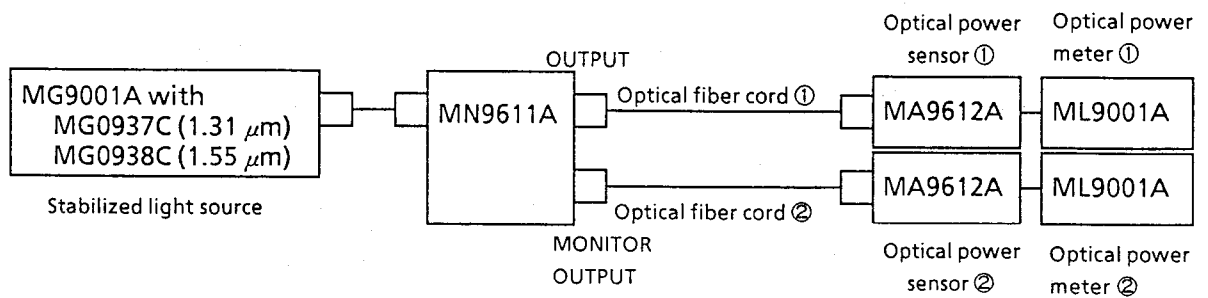

Fig. 7-6 Test System (5)
1. Figure 7-6 shows the block diagram of the test system that measures the optical output stability of the output for monitoring optical signal. Set the attenuation to "0" by pressing the [ATTENUATION] setting key of the MN9611A and turning the rotary encoder. Then, connect the OUTPUT connector of the MN9611A to the MA9612A ① with the optical fiber cord ①. And press the [RELATIVE] key of the ML9001A ① to display "0 dB".
2. Connect the MONITOR OUTPUT connector of the MN9611A to the MA9612A ② with the optical fiber cord ②, and press the [RELATIVE] key of the ML9001A ② to display "0 dB".
3. Then, turn the rotary encoder to set the attenuation to an arbitrary value. At this time, the difference between the displayed values of the ML9001A ① and ② is the optical output stability.